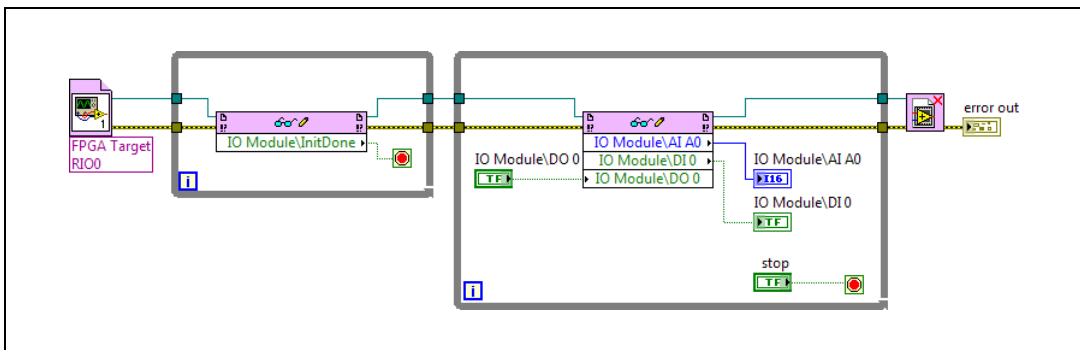

Figure 7. 5752 RW (Host).vi Block Diagram
12. Add a While Loop to the block diagram with a control on the loop condition, as shown in Figure 7.